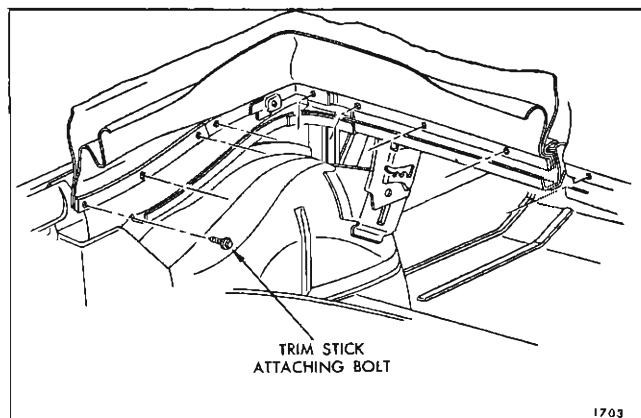

Fig. 2-I-38—Trim Stick Attachment
3. Detach folding top compartment bag from rear seat back panel, thus exposing rear quarter and rear trim stick attaching bolts (Fig. 2I38). Forward end of top compartment bag may be tied or wired to center roof bow to provide ready access to attaching bolts.
4. Remove attaching bolts securing rear quarter trim sticks to rear quarter inner panel (Fig. 2I38).